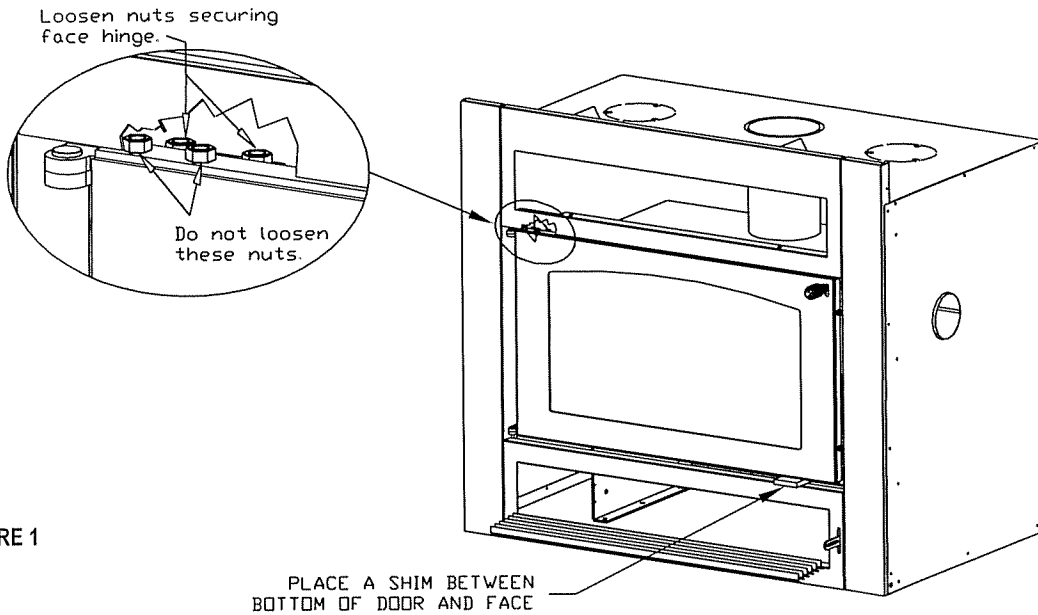

FIGURE 1
2. Place the shim, included in the fireplace components packet, between the bottom of the door and face on latching side as shown in figure 1. This is necessary to 'hold' the door in horizontal alignment.
Upper face hinge: Remove the upper grill and locate the two nuts securing the upper face hinge inside the upper grill opening. Figure 1.